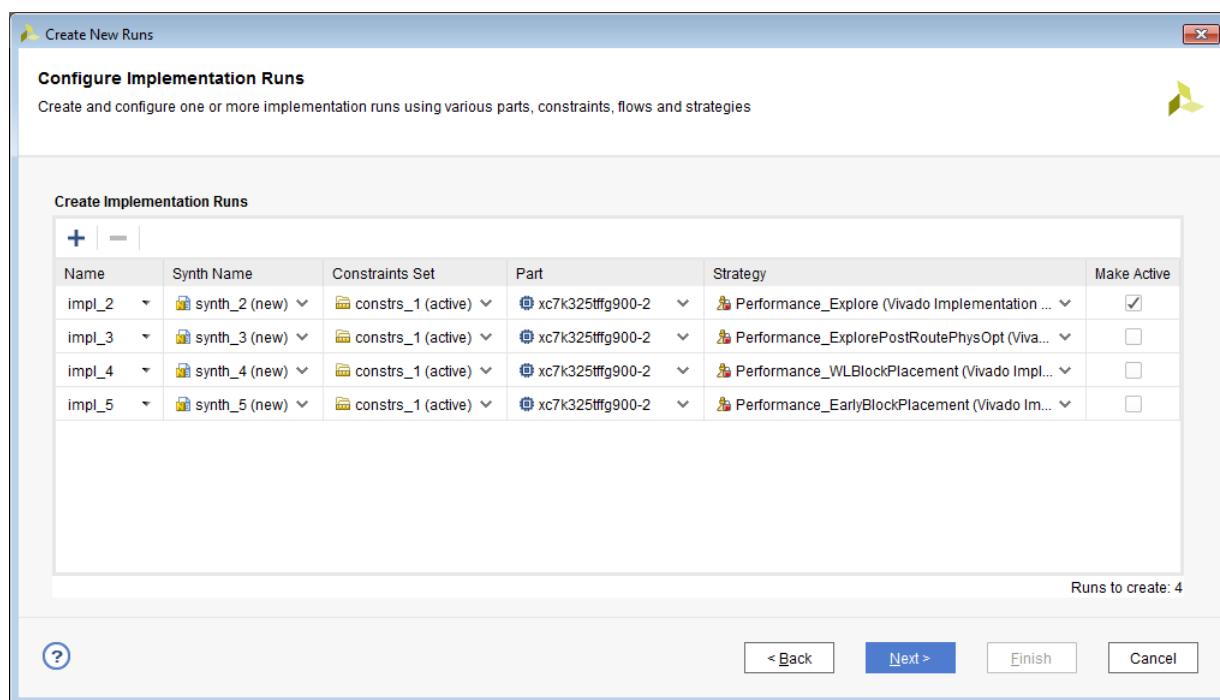

Figure 3-10: Creating Multiple Synthesis and Implementation Runs
3. In the Create New Runs wizard (Figure 3-10), select the constraint set and target part.